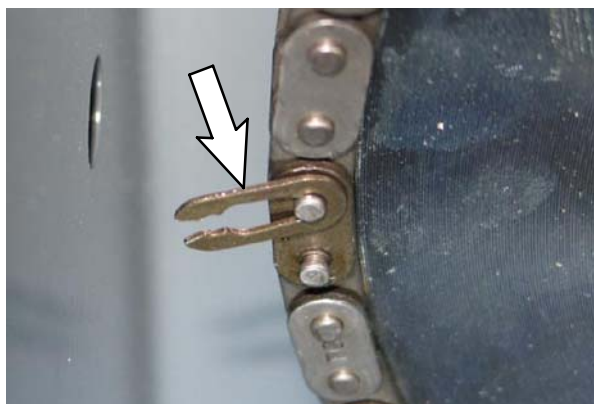

FIG. 9
3. Remove the master link from the chain. Refer to Fig. 9.